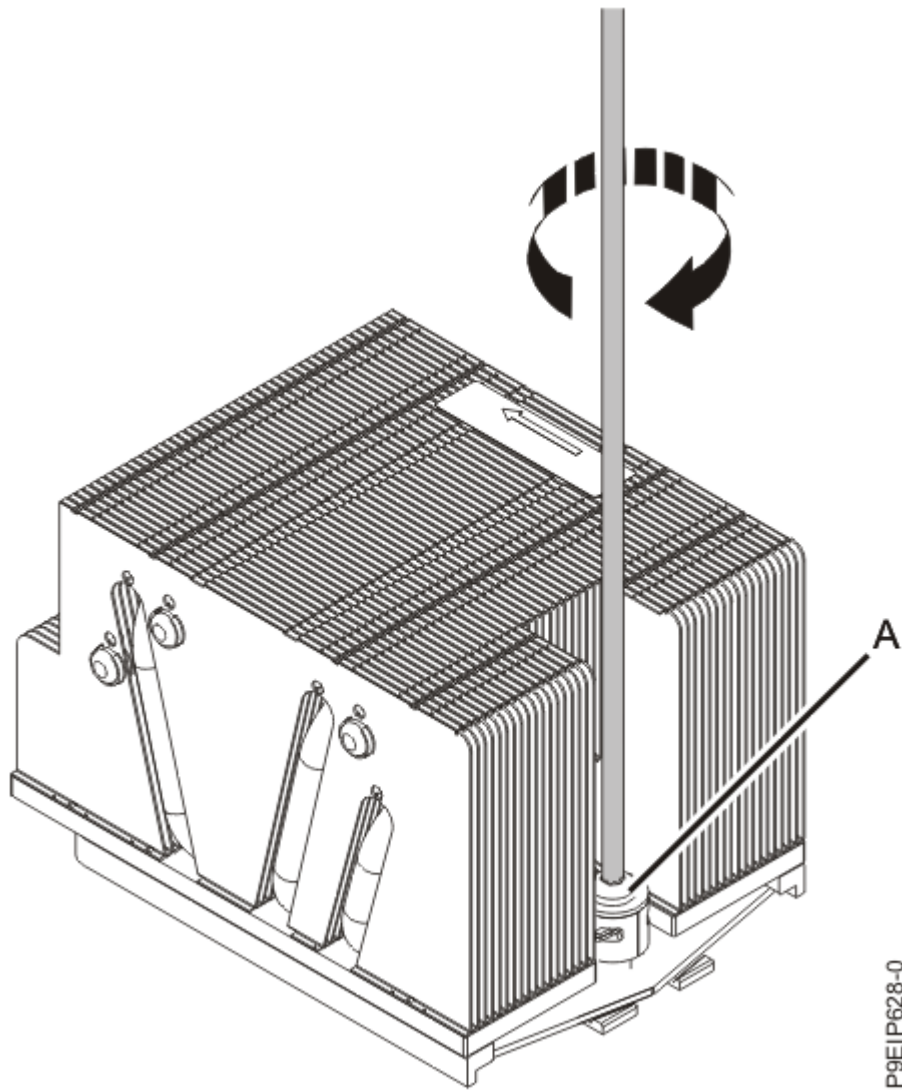

Figure 63. Tightening the load arm screw
7. Tighten the load arm **(A)** screw with a #3 Phillips screw driver, as shown in Figure 63 on page 67.